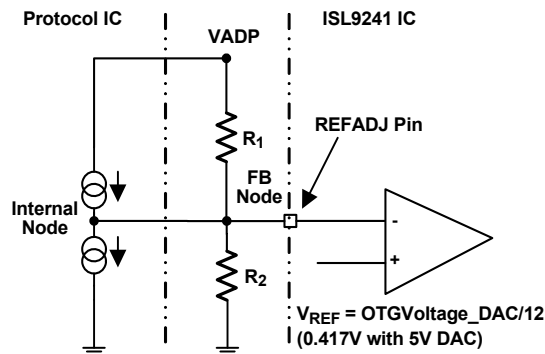

Figure 38. Simplified REFADJ Application
The schematic shown in Figure 38 on page 56 shows how the REFADJ pin is tied to the feedback (FB) node resistor divider node off the VADP node for a quick charge protocol IC. This schematic sets up the FB node to use the reference voltage of 0.417V from ISL9241, but the output on the VADP node can be set up to any voltage over the standard operating range using the  $R_1/R_2$  ratio.